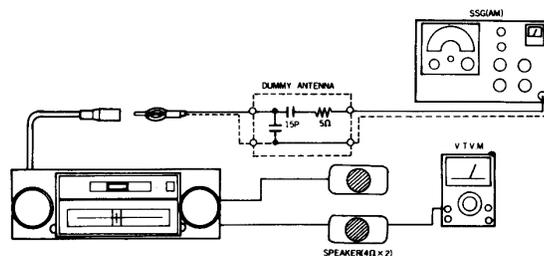

Figure 3-4. AM RF Circuit Equipment Set-Up
Refer to figure 3-4 for equipment set-up.
- Connect a resistor dummy load to the audio output terminals and connect the millivoltmeter across the resistor. Insert a dummy antenna as shown in figure 3-4 between the ANT connector and the AM signal generator.